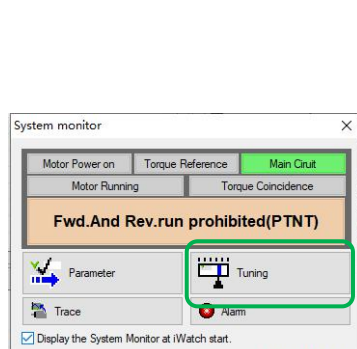

Figure 5
2. Connect the servo driver and click the "Tune" button in the working area of the iWatch+ [System Detection] window (Figure 5).